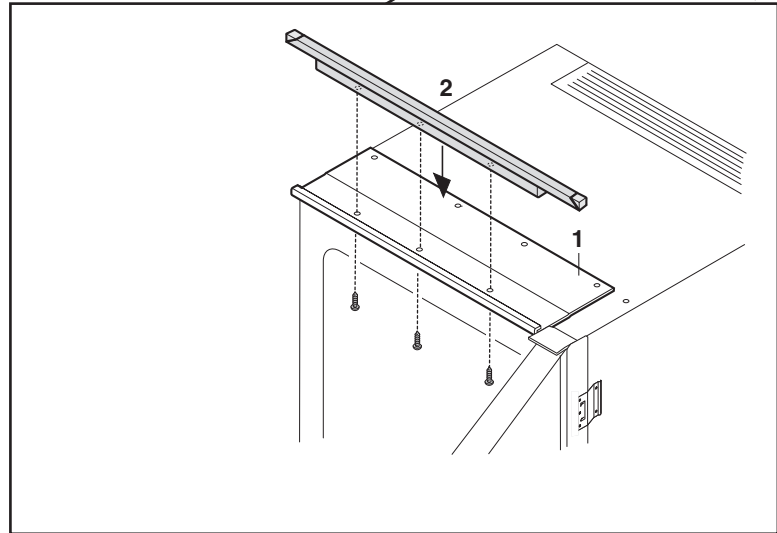

Figure 19
- **Figure 19:** Screw the complete installation frame (2) to the appliance.